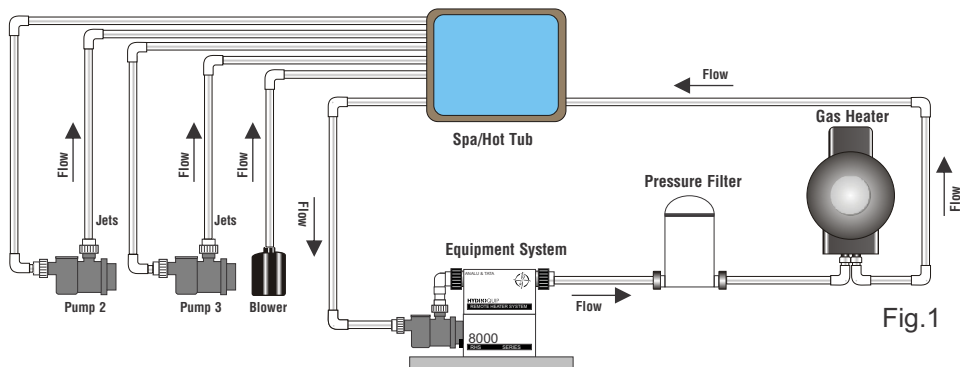

Fig.1
Warning: Gas heaters **MUST** be installed in the plumbing **AFTER** the control system as shown below. Fig.1
Step 1 - Clean area and insert spaside control. (Fig.1)